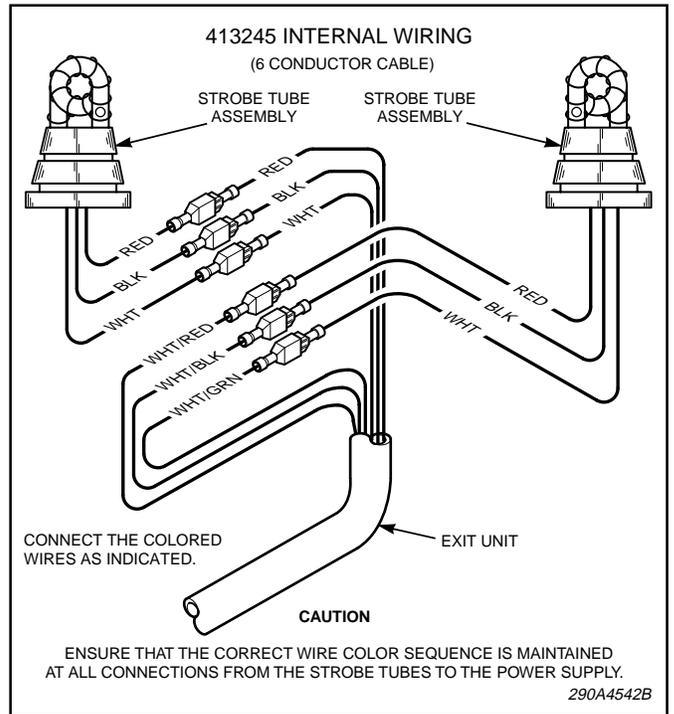

Figure 5.
g. See figure 5. Plug in the replacement strobe tube. Reassemble the unit.
Figure 5 shows the 413245's internal wiring.